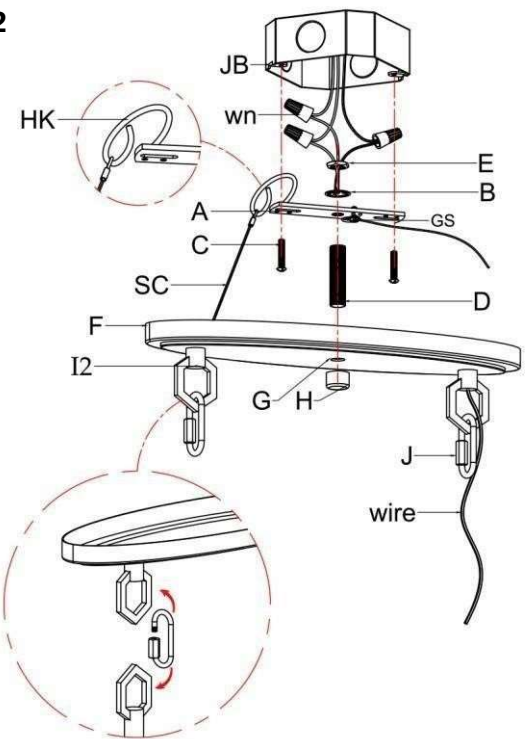

Fig. 3
CONNECTING THE WIRES (Fig. 3)
11. Connect the electrical wire as shown in Fig. 3, making sure that all wire connectors are secured. If your junction box has a ground wire (green, or bare copper), connect fixture's ground wire to it. Otherwise connect fixture's ground wire directly to crossbar (A) using green screw provided.
12. Tuck wire connections neatly into junction box (JB).
13. To mount the fixture to the ceiling, first slip all thread (D) through the mounting holes (G) in the canopy (F) Then thread the cap nut (H) at the end of all thread (D) and tighten.